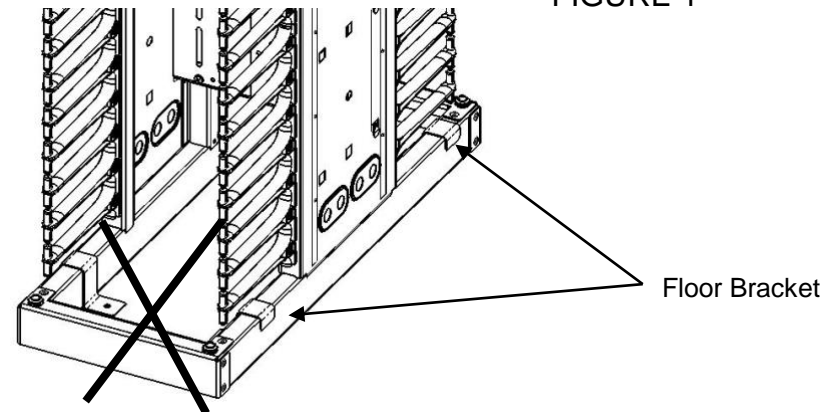

FIGURE 2
6. Install Brackets alongside the base frame member, front and one rear, Brackets may be installed on the inside or outside of the cable manager. See Figure 2 and 1.